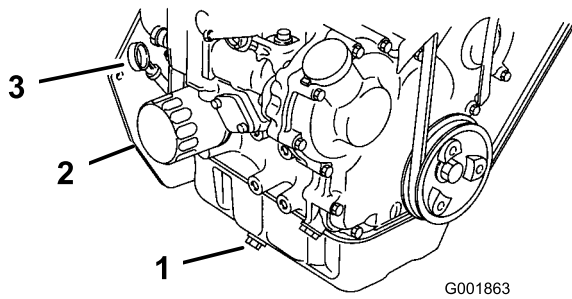

Figure 46
- Place a pan below the oil drain. Remove the drain plug and let the oil drain completely (Figure 46).